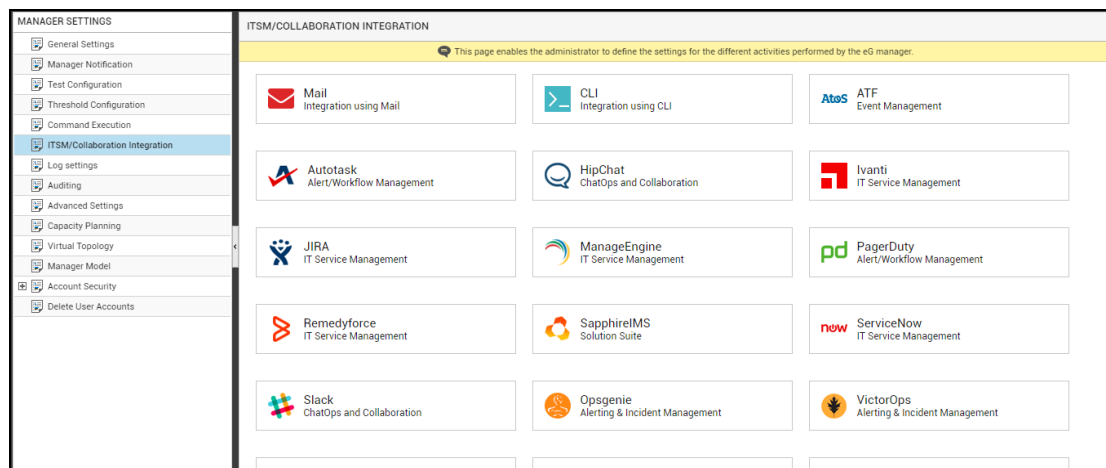

Figure 5.9: Viewing the ITSM/Collaboration tool options
3. Figure 5.9 will then appear. From the **MANAGER SETTINGS** tree in the left panel of Figure 5.9, select the **ITSM/Collaboration Integration** node. The third-party ITSM/Collaboration tools that eG Enterprise can integrate with will be listed in the right panel.
4. Now, click on the **PagerDuty** option in the right panel (see Figure 5.9). A **PagerDuty** section will now appear in the right panel (see Figure 5.10).